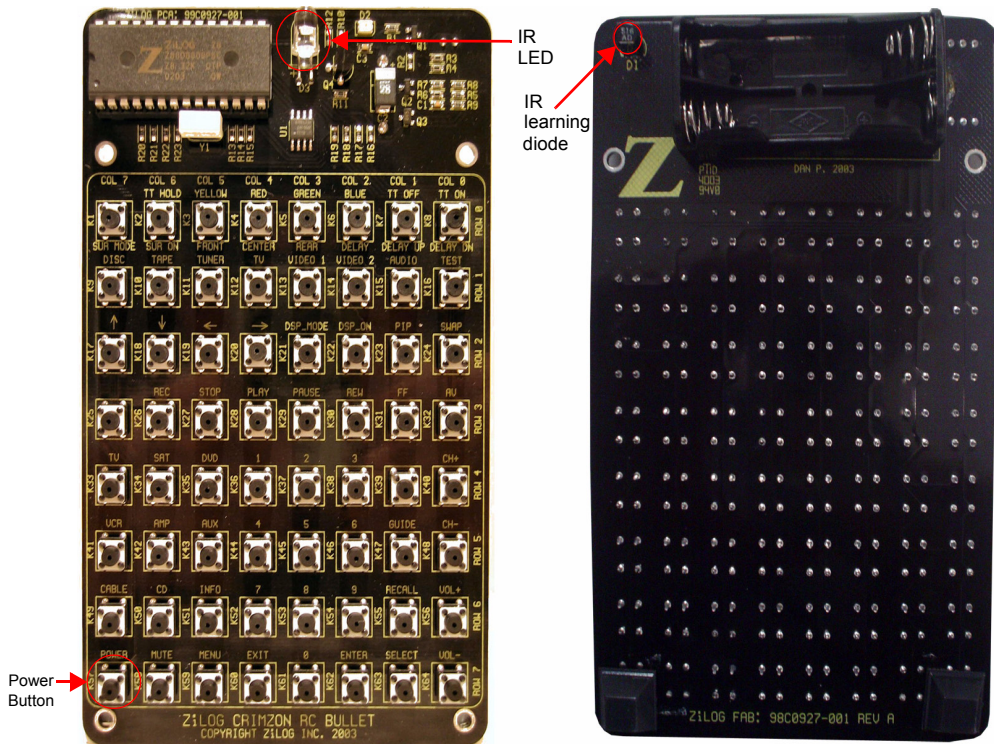

Figure 1. Crimzon RC Bullet Front and Back View
ZiLOG's Crimzon RC Bullet® ready-to-manufacture universal remote control reference design kit v1.2 (see Figure 1) provides a reference design and turnkey remote control development platform for ZiLOG's ZLP32300 family of infrared (IR) microcontrollers. A universal remote control integrates the features of IR remote controls for various type of devices. You can select a device to control by entering its three-digit device code.